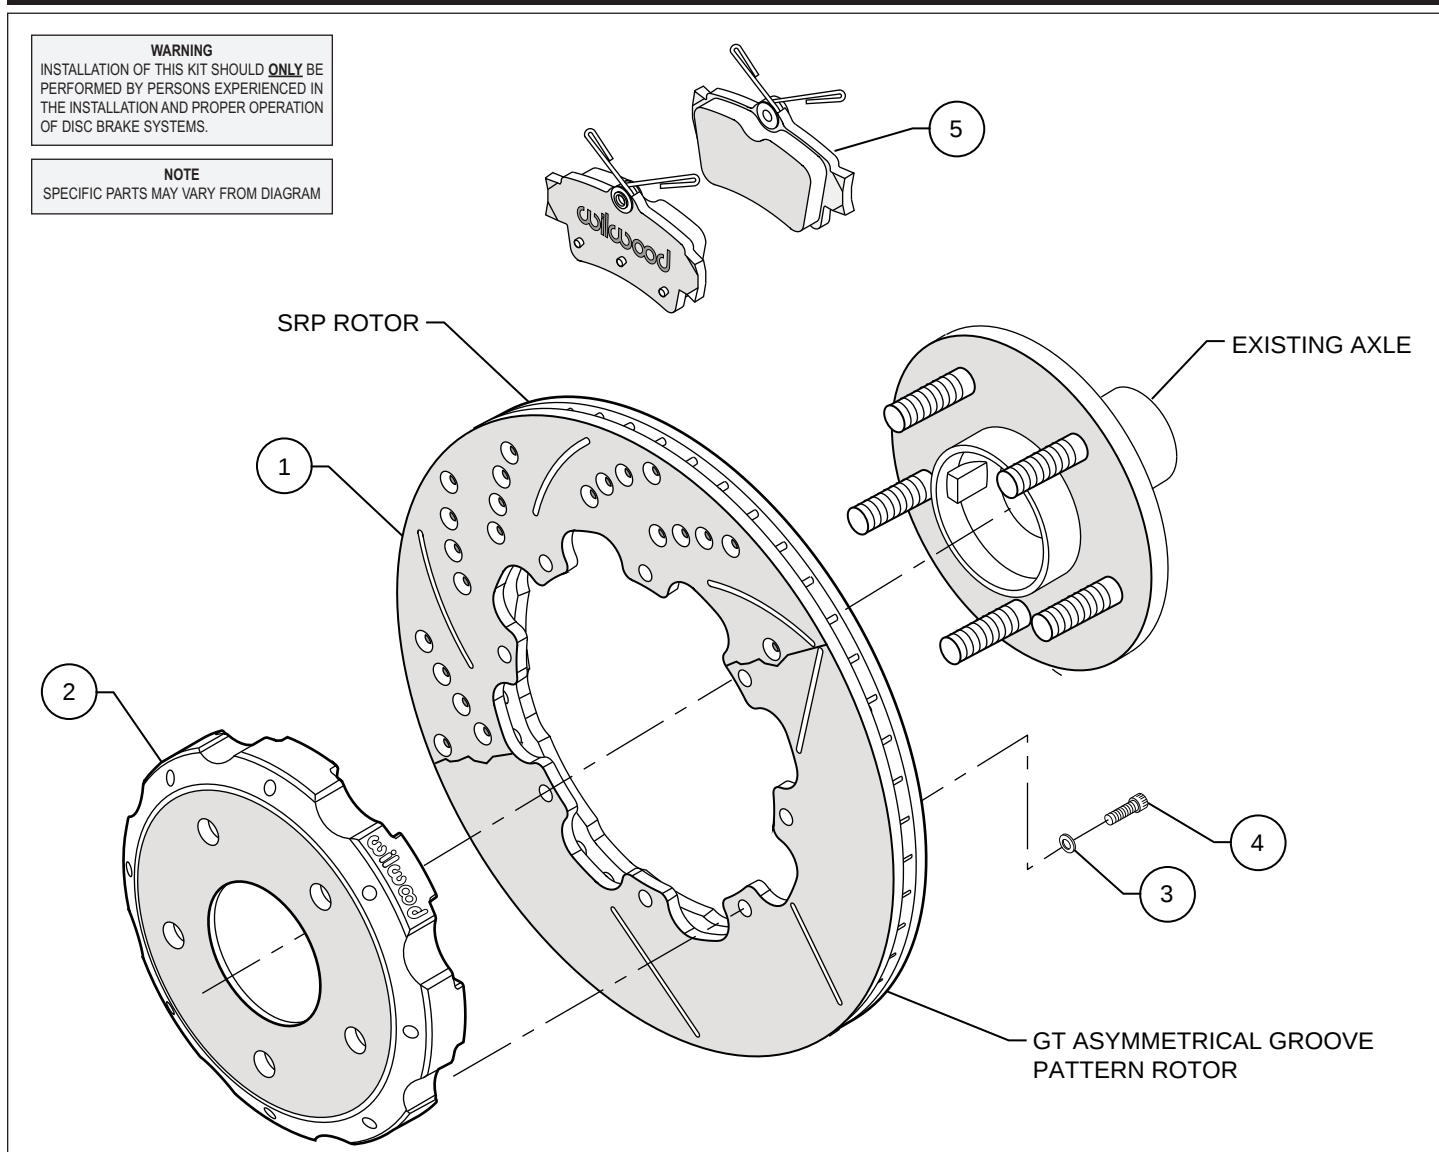
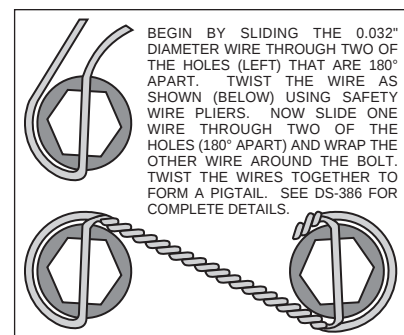

Figure 1. Typical Installation Configuration
Figure 2. Safety Wire Diagram
- Assemble the rotor (1) to the hat (2) with the bolts (4) and washers (3) as indicated in the configuration pictured in Figure 1. Be sure all bolts thread in smoothly and are snug. Then, torque all bolts in an alternating sequence to 120-144 **in-lbs**. The rotor mounting bolts (4) must be lockwired using standard 0.032 inch diameter stainless steel safety wire as shown in Figure 2. Please refer to Wilwood's data sheet DS-386 (available at www.wilwood.com/pdf/ds386.pdf) for complete safety wire installation instructions
- Align the hole pattern on the hat (2) with the stud pattern on the axle flange. Slide the hat and rotor assembly over the wheel studs and against the axle flange face. Check to be sure the hat seats squarely against the axle flange face. The axle flange area must be free from any rust, debris, casting burrs, machining irregularities, etc. Use several lug nuts to hold the rotor and hat in place against the axle flange.
- Install new Wilwood brake pads (5) into the stock caliper.